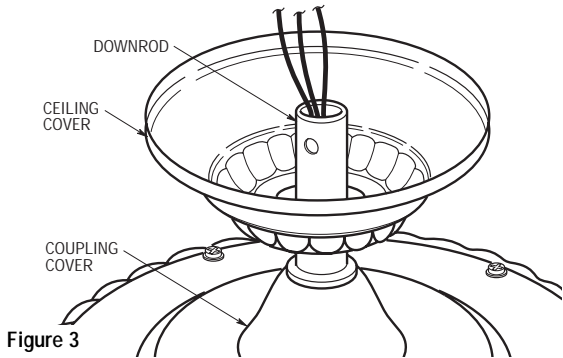

Figure 3
- 4. Make sure the grommet is properly installed in the coupling cover, then slide the coupling cover on the downrod until it rests on the motor housing. Place the ceiling cover over the downrod. Be sure that the ceiling cover and the coupling cover are both oriented correctly (Figure 3).